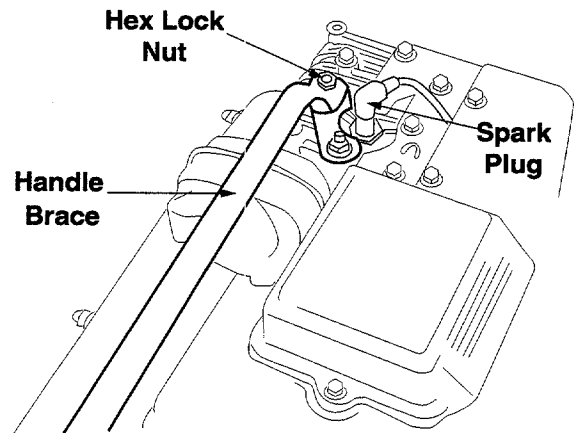

Figure 4
4. Remove the hex lock nut from top of the engine, just to the left of the spark plug. See figure 4. Attach the curved end of the handle brace to the top of the engine, using hex lock nut just removed. Tighten securely.